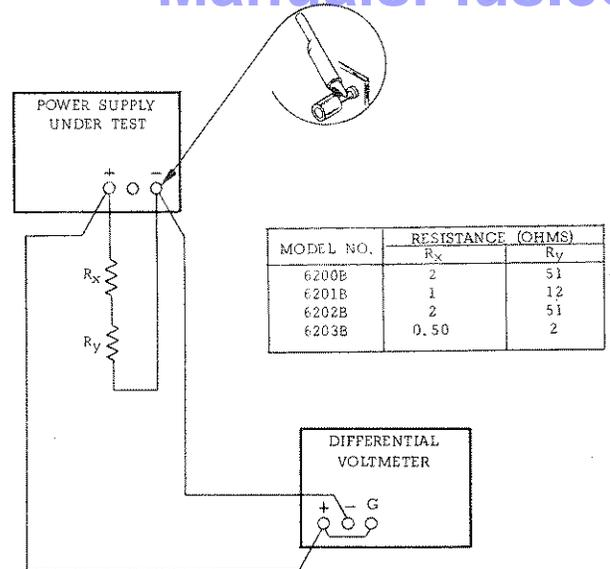

Figure 5-5. Load Regulation, Constant Voltage
a. Connect test setup as shown in Figure 5-5.
c. Connect test setup shown in Figure 5-5.
Poor load regulation (Constant Voltage)	a. Measurement technique. (Paragraph 5-16) b. Check the regulation characteristics of Zener diode VR1 as follows: (1) Connect differential voltmeter across VR1. (2) Connect appropriate load resistor (R _L), given in Figure 5-5, across (+) and (-) output terminals. (3) Perform steps b through f of Paragraph 5-16. (4) If the differential voltmeter reading varies by more than 1.8mV, replace VR1. c. Ensure that supply is not going into current limit. Check constant current input circuit.